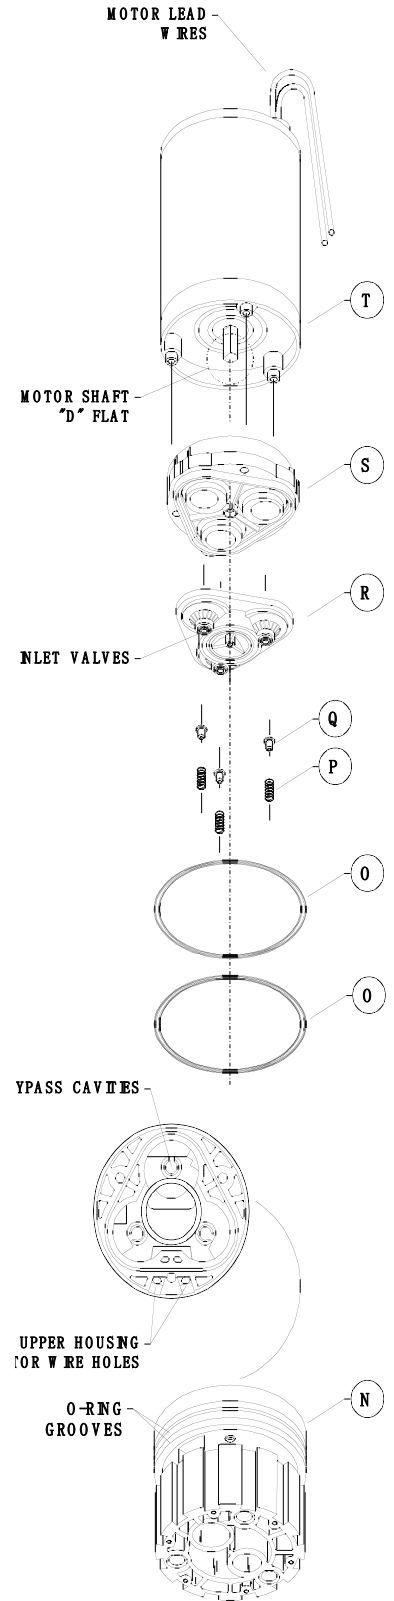

FIGURE 11
1) Install the Upper Housing Large O-Rings (Part O) (Fig. 11).
2) Install the Bypass Assembly (Parts P and Q) (Fig. 11).
3) Install the Valve Housing Assembly (Parts R) (Fig. 11).
4) Install the Lower Housing Assembly (Part S) (Fig. 11).
- a) Place the Lower Housing Assembly onto the Valve Housing Assembly (Part R) (Fig. 11).
5) Install the Motor (Part T) (Fig. 11).